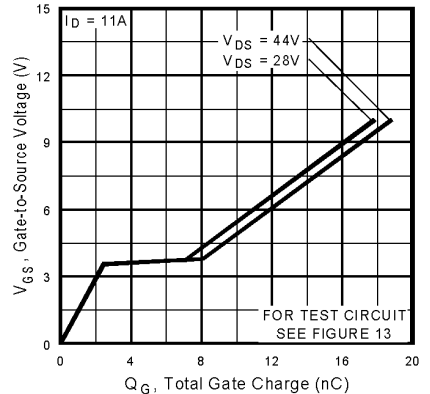

Fig 6. Typical Gate Charge Vs. Gate-to-Source Voltage
| Q_{gd} | Gate-to-Drain ("Miller") Charge | — | — | 8.5 | | $V_{GS} = 5.0V$, See Fig. 6 and 13 ④⑥ |